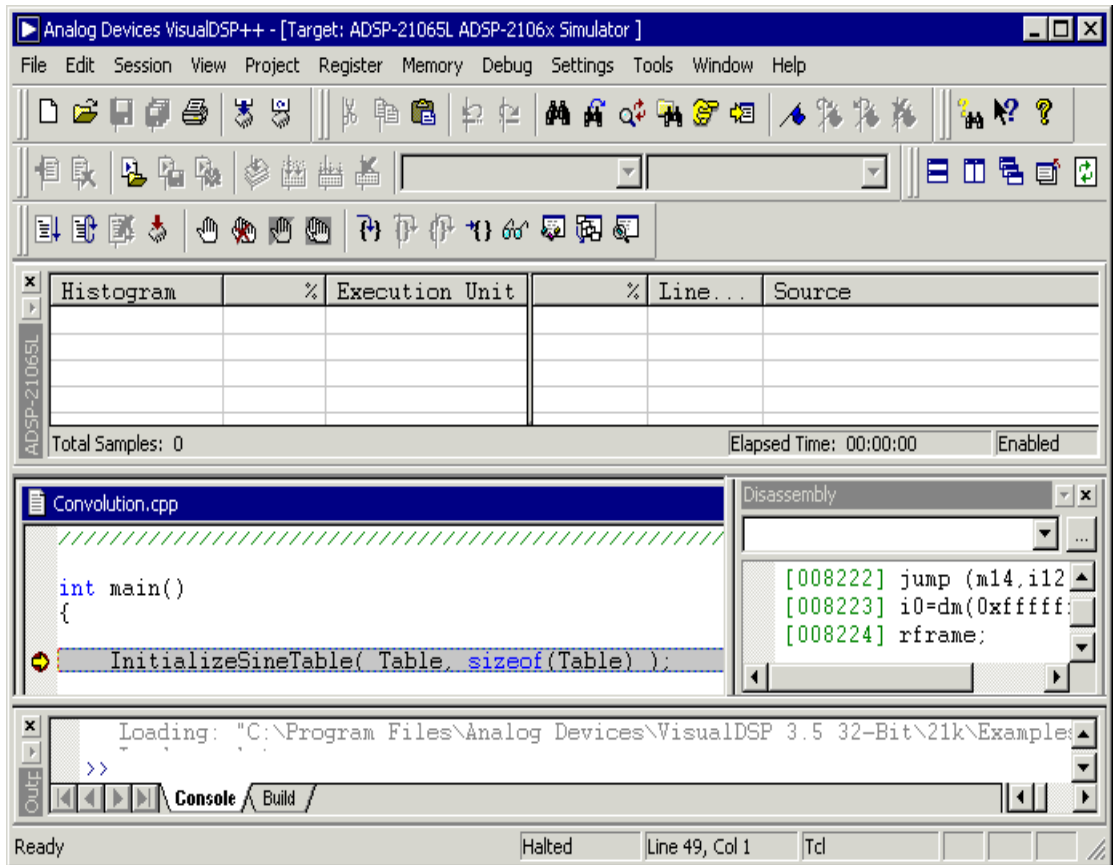

Figure 2-33. Linear Profiling Results Window (Empty)
2. For a better view of the data, drag and dock the window's title bar to the top of the VisualDSP++ main window, as shown in Figure 2-33.